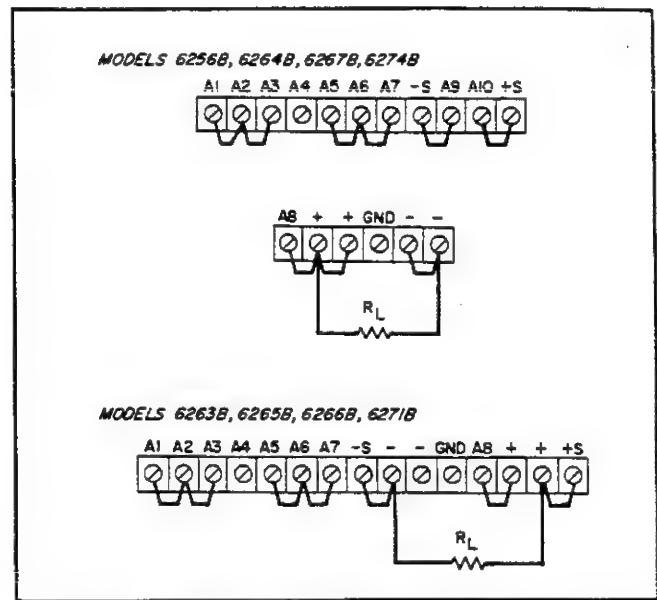
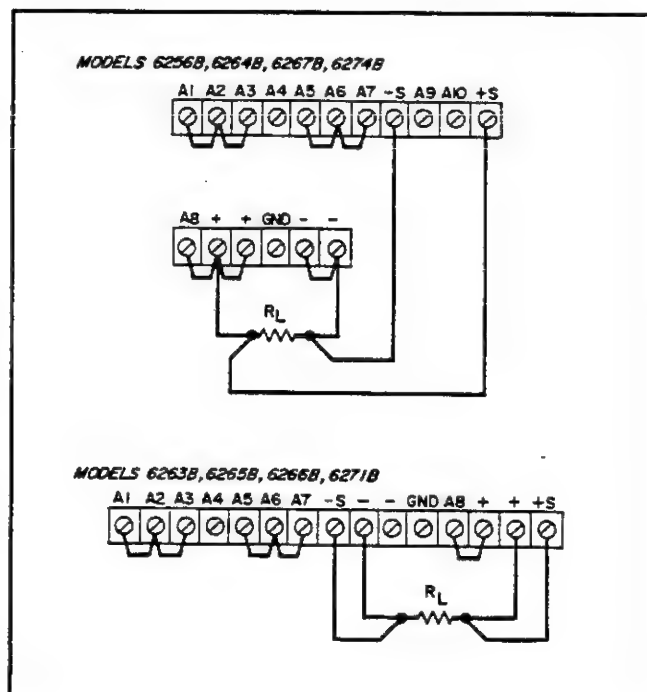

Figure 3-2. Normal Strapping Patterns
Figure 3-3. Remote Sensing
a. Turn CURRENT controls ⑦ and OVERVOLTAGE ADJUST potentiometer ⑤ fully clockwise and check that rear panel straps are connected as shown in Figure 3-2, but do not connect load R_L .
terminals (see Figure 3-2), and turn it back on.
3-7 This power supply was shipped with the proper rear panel strapping connections made for constant-voltage/constant-current operation with local sensing and local programming. This strapping pattern is illustrated in Figure 3-2. By means of the front panel voltage and current controls, the operator selects either a constant-voltage or a constant-current output. Whether the supply functions in the constant-voltage or the constant-current mode depends on the settings of the voltage and current controls and on the resistance of the output load. For values of load resistance greater than a critical crossover value equal to the voltage setting divided by the current setting, the supply
3-26 Because of the unavoidable voltage drop developed in the load leads, the normal strapping pattern shown in Figure 3-2 will not provide the best possible voltage regulation at the load. If, for example, one were to use 8-gauge wire to connect a load that is located only 5 feet from a Model 6256B 10V 20A supply, the regulation measured at the load would be about 120 millivolts as compared to the 1.2 millivolt regulation that could be measured at the supply's output terminals. Thus even relatively short load leads can cause a considerable degradation of the supply's performance. The remote sensing connections shown in Figure 3-3 improve the voltage regulation at the load by monitoring the voltage there instead of at the supply's output terminals. (The advantages of remote sensing apply only during constant voltage operation. This is because in the constant current mode the resistance of the load leads has no adverse effect on a supply's performance.)
3-27 As can be seen in Figure 3-3, remote sensing involves removing the (+S) and (–S) jumpers from the rear panel terminals, connecting the load leads normally, and using a separate pair of wires to connect the (+S) and (–S) sensing terminals to the load. The following paragraphs discuss some precautions that should be observed when making a remote sensing installation.
The (+S) jumper is the one that links the (+S) terminal to the (+OUT) or (A10) terminal when the supply's terminals are strapped for normal operation as shown in Figure 3-2. The (–S) jumper is the one that links the (–S) terminal to the (–OUT) or (A9) terminal.